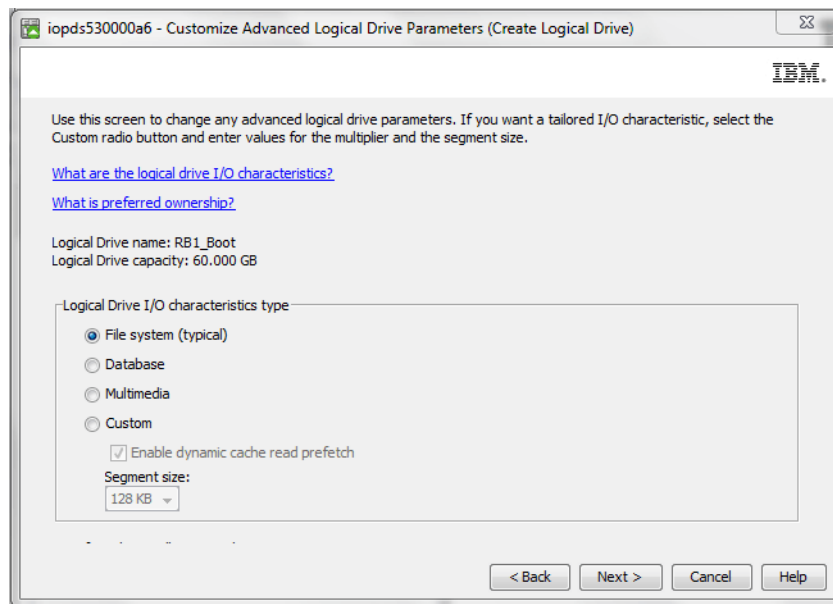

Figure 2-55 Selection of the file type
3. In the Customize Advanced logical drive window, you will select the type of drive you require. For SAN Boot it will always be a **File System** type, even if it will be using the boot LUN for running a Data base. It will be **File System** by default so you will just click **Next**, as shown in Figure 2-55.